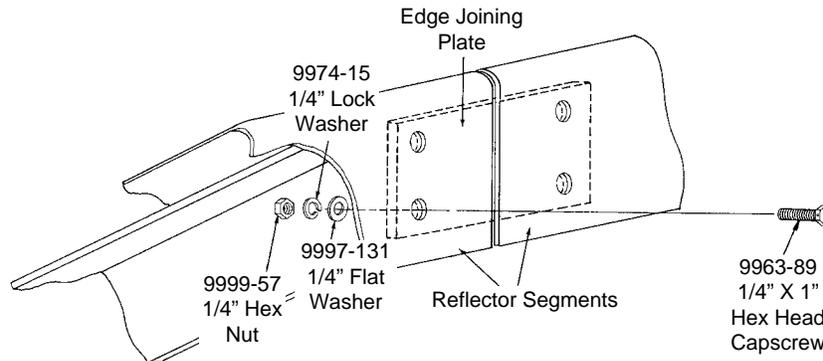

Figure 4-6
4.6 Refer to Figure 4-6. Install supplied edge joining plates across panel segment seams on inside of reflector rim at all 16 locations using indicated hardware. Finger tighten hardware only.